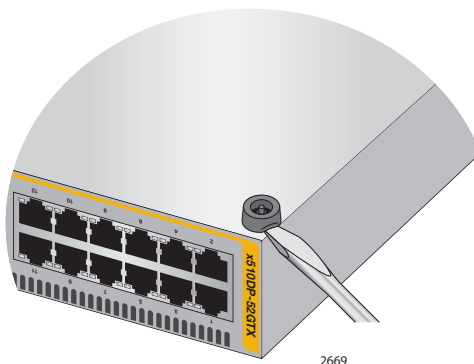

Figure 27. Removing the Rubber Feet
2. Using a flat-head screwdriver, pry the rubber feet from the bottom of the switch, as shown in Figure 27.